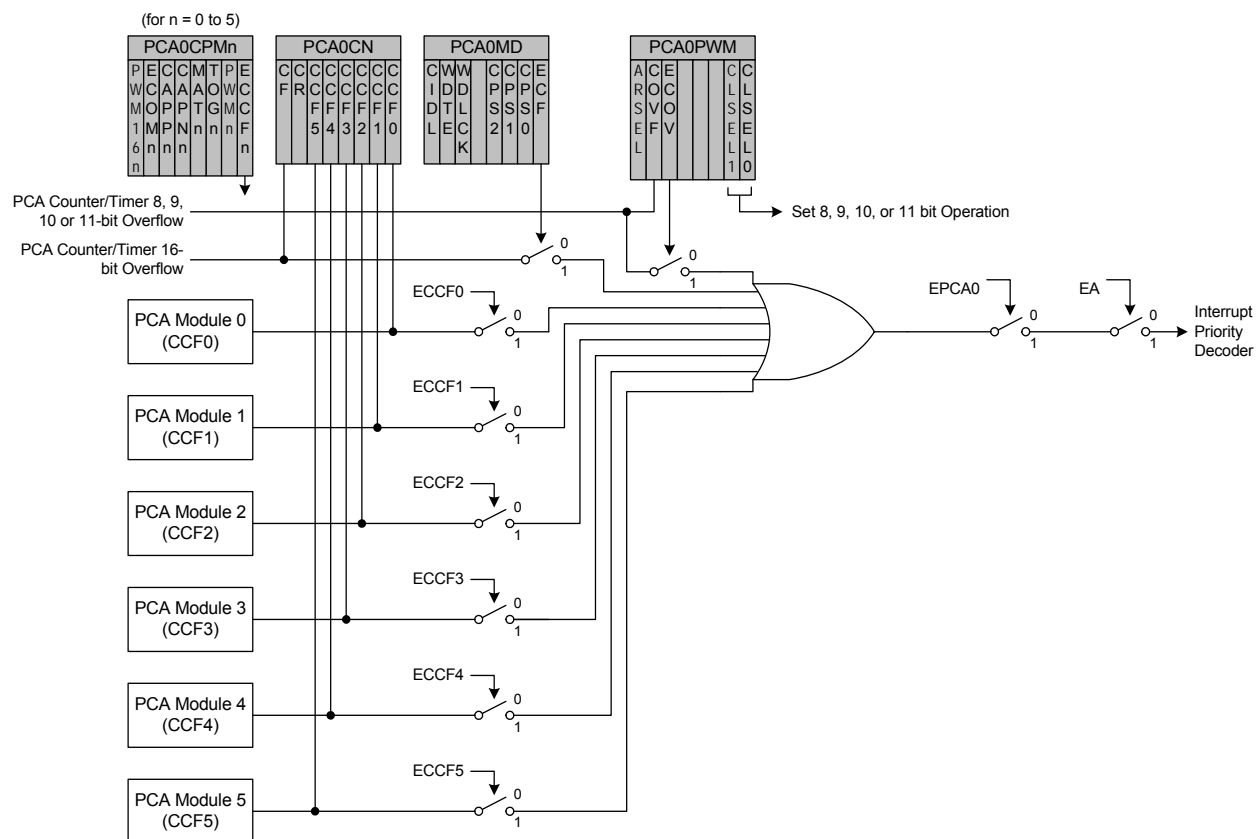

Figure 34.3. PCA Interrupt Block Diagram
Figure 34.3 shows a diagram of the PCA interrupt tree. There are eight independent event flags that can be used to generate a PCA0 interrupt. They are: the main PCA counter overflow flag (CF), which is set upon a 16-bit overflow of the PCA0 counter, an intermediate overflow flag (COVF), which can be set on an overflow from the 8th, 9th, 10th, or 11th bit of the PCA0 counter, and the individual flags for each PCA channel (CCF0, CCF1, CCF2, CCF3, CCF4, and CCF5), which are set according to the operation mode of that module. These event flags are always set when the trigger condition occurs. Each of these flags can be individually selected to generate a PCA0 interrupt, using the corresponding interrupt enable flag (ECF for CF, ECOV for COVF, and ECCFn for each CCFn). PCA0 interrupts must be globally enabled before any individual interrupt sources are recognized by the processor. PCA0 interrupts are globally enabled by setting the EA bit and the EPCA0 bit to logic 1.